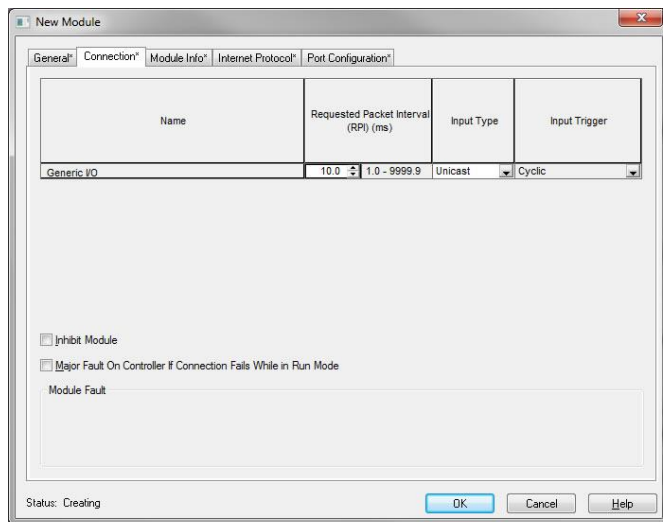

Figure 20: AOP New Module Properties Connection Tab
13) Click on the “Connection” tab. Refer to Figure 20.